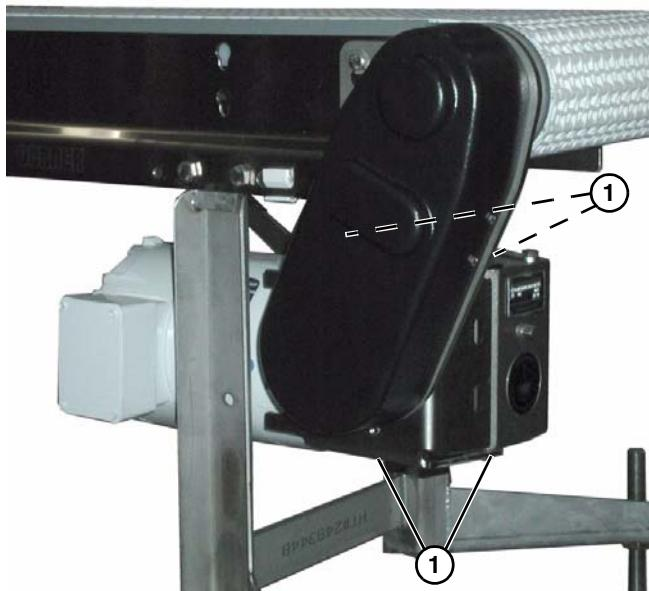

Figure 4
1. If required, change gearmotor position by removing four bolts (Figure 4, item 1). Rotate gearmotor to other position and replace screws (Figure 4, item 1).